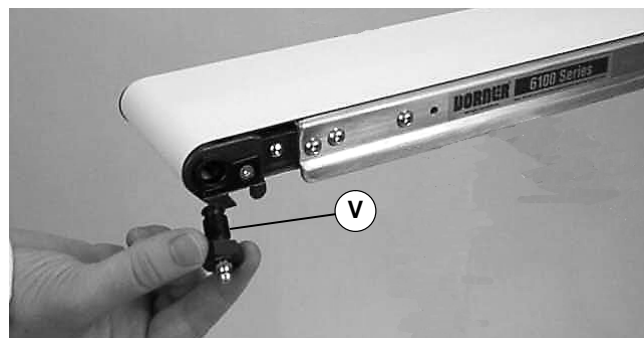

Figure 18
2. Install Dorner greasing adapter (part # 200046M) (V of Figure 18). Make sure the adapter shoulder is seated against the conveyor tail plate.